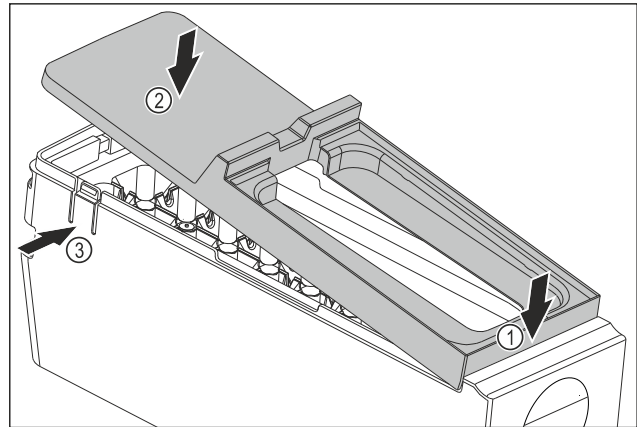

Fig. 166
- ▶ Installing the cover of the EasyTwist-Ice body: Fit the cover at the front. Fig. 166 (1)
- ▶ Lower the cover at the rear. Fig. 166 (2)
- ▶ The cover snaps audibly into place in both tabs Fig. 166 (3).